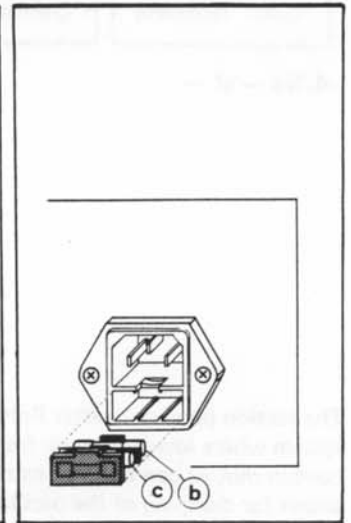

Fig. 3.2
The primary fuse ② can then be taken out and be replaced by a new fuse or by the replacement fuse ③. Check fuse rating before doing so! (Fig. 3.2).